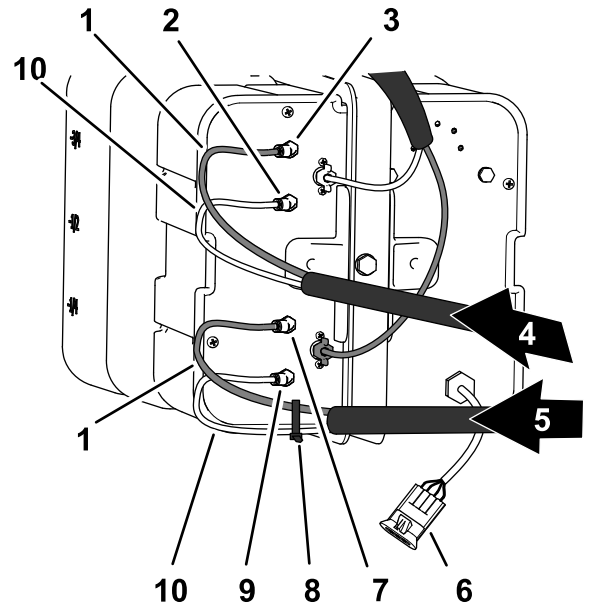

Figure 14
1. At the connection panel of the compressor for the foam-marker kit, secure a cable tie around the clear and blue tubing for the right-spray section (Figure 14).